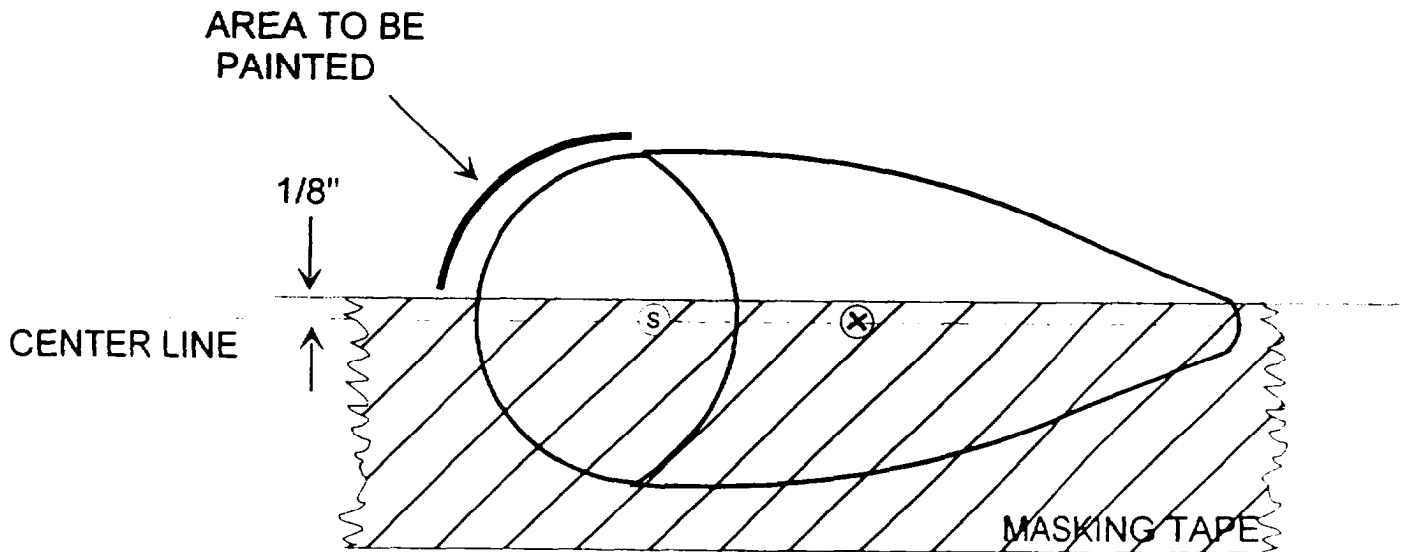

Figure 1. Lens Modification Schematic
(1) Require a one-time masking of the red and green position lights to exact dimensions specified.
(2) Ensure that flight operations are conducted in accordance with FAA regulations when flying in civil airspace at night.
(3) Provide controls to minimize risk during NVG flight operations.
**a. Lens Modification (Reference Figure 1).**
(1) Both upper and lower red and green lenses must be modified. Leave position light dome lens in assembly.
(2) Determine the horizontal center line of the position lights by drawing or marking from the center of the Phillips screw and cone point of the light cover and extending across dome lens through the raised letter or dimple located in the center of the lens.
(3) For the upper right and left position lights, mark a line 1/8 inch below and parallel to the center line drawn in step 2. The line should extend from the light cover to the base of the lens. Place masking tape on the upper part of the light assembly along the line drawn 1/8 inch below the center line. Note that the masking tape will just cover the head of the Phillips screw on the light assembly covers.
(4) For the lower right and left position lights, measure and mark 1/8 inch above and parallel to the center line mark on the lens. The line should extend from the light cover to the base of the lens. Place masking tape on the lower part of the light assembly along the 1/8 inch line above the center line. Note that the masking tape will just cover the head of the Phillips screw on the light assembly covers.
(5) Verify that slightly more than 1/2 of the top portions of the exposed upper position lights are completely masked, and slightly more than 1/2 of the bottom parts of the lower position lights are completely masked.
(8) To prevent overspray of the airframe CARC paint, cut a piece of stencil board, oil (NSN 9310-00-160-7858) approximately 16 inches long by 11 inches wide and locate center point. Place the position light template over the center point of the cut stencil board lengthwise and draw around the template. Remove the template and, with a sharp instrument, cut out template area. The position light assembly will be exposed to minimal overspray.
(7) Paint the exposed area of the lenses using lacquer, olive drab, 16 oz. aerosol can (NSN 8010-00-584-3149). Proceed until sufficient coats are applied to prevent any bleeding of light through the painted area. Test the opacity of the painted area by turning on the position lights.
(8) A schematic of the above instructions may be found at figure 1.